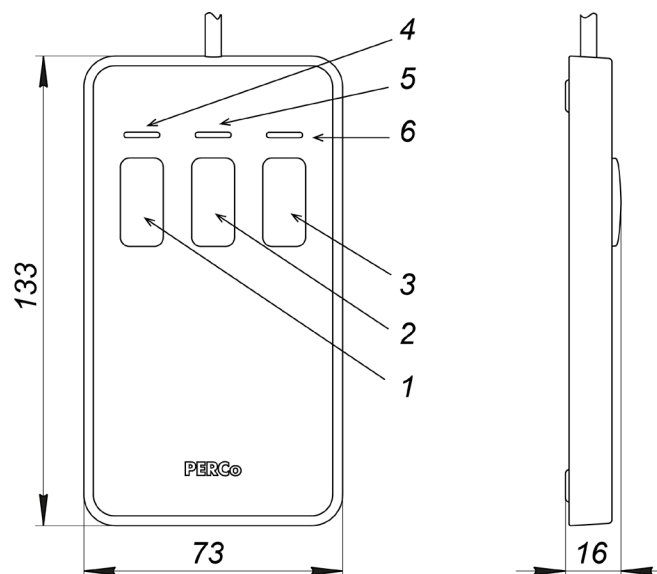
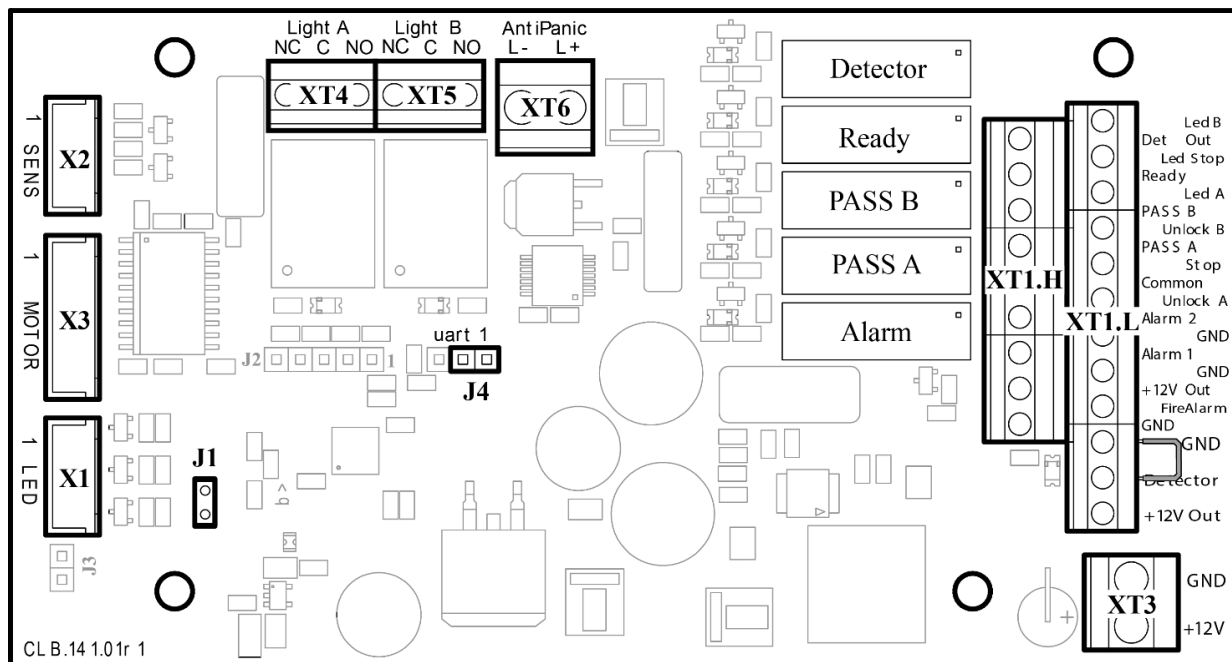

Fig. 4. Overall view and dimensions of the RC panel
Fig. 5. Overall view of the CLB (CLB-140) control board
The RC panel (11) is designed as a small desktop device in a shockproof ABS plastic case and is intended for setting and indicating operation modes when the turnstile is controlled manually. The RC panel is connected to the control board with a flexible multicore cable (12) via the **XT1.L** terminal block (see Fig. 5). The overall view of the RC panel is shown in Fig. 4.
Inside the turnstile housing, there is a bracket outfitted with a CLB control board (see Fig. 5) and terminal blocks for connection of external devices. An RC panel, ACS outputs, WRC device (when used), intrusion detector (optional), and *Fire Alarm* emergency passage unblocking device are connected to the CLB. Connection lines of the power supply unit, control lines of the card capture reader mechanism, and signal lines of card readers are placed on the terminal blocks for connection of external devices. External devices are connected in accordance with the electrical connection layout (see Fig. 14).
The CLB (see Fig. 5) contains:
The control mode is selected with a jumper on the **J1** connector of the control board. The location of the **J1** connector is shown in Fig. 5. By default, the jumper is installed, which activates the pulse control mode. To switch to the potential control mode, the jumper needs to be removed. The control mode will change as soon as the turnstile is switched on.